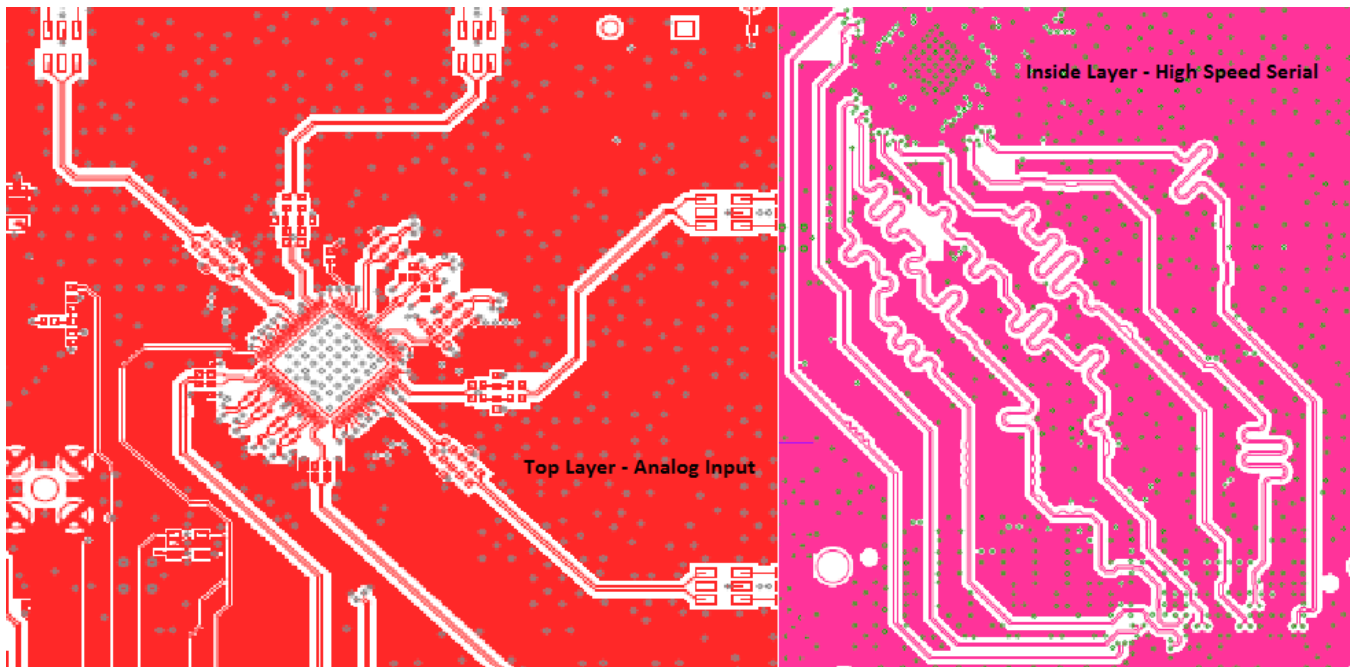

Figure 107. Top and Bottom Layers
The Device EVM layout can be used as a reference layout to obtain the best performance. A layout diagram of the EVM top layer is provided in Figure 107. Some important points to remember during laying out the board are:
- Analog inputs are located on opposite sides of the device pinout to ensure minimum crosstalk on the package level. To minimize crosstalk on-board, the analog inputs should exit the pinout in opposite directions, as shown in the reference layout of Figure 107 as much as possible.
- In the device pinout, the sampling clock is located on a side perpendicular to the analog inputs in order to minimize coupling between them. This configuration is also maintained on the reference layout of Figure 107 as much as possible.